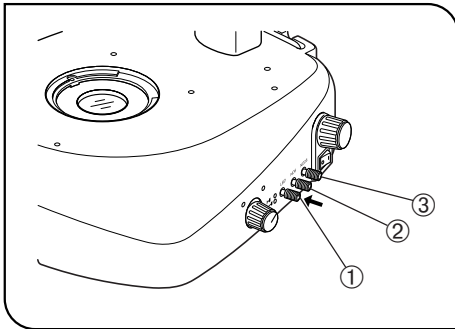

Fig. 5
**3 Built-in Filters** ILLB (Fig. 5)